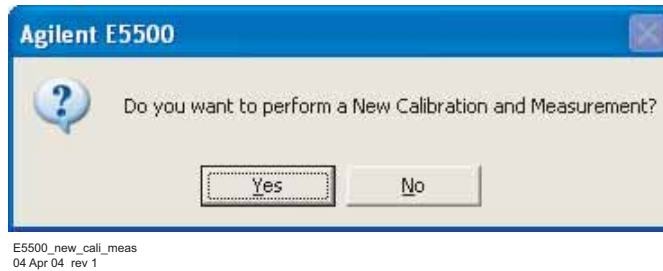

Figure 9 Confirm new measurement
- 2 When the **Do you want to Perform a New Calibration and Measurement?** dialog box appears, click Yes. See Figure 9.